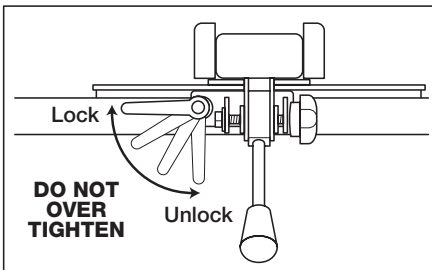

Figure 9
**TIP: Adjust the quick lock knob so the Micro-Adjuster is locked, with the handle positioned as shown in Figure 9. A 1/4 rotation of the handle will then be all that is required to unlock the Micro-Adjust saddle.**